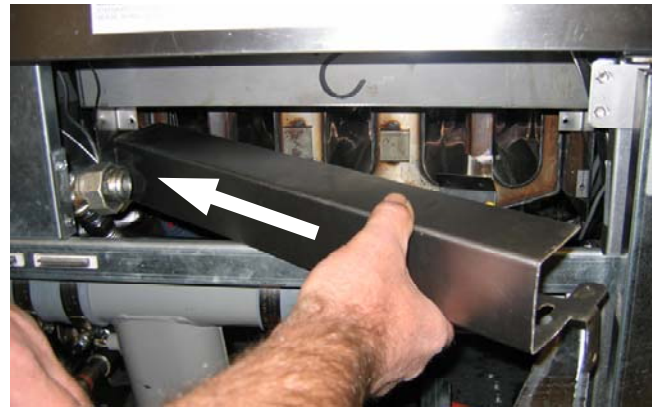

Figure 5: Start by inserting one end into the cabinet.
- A. Angle the brace (as shown in Figure 5) and slide one end into the space in front of the frypot.